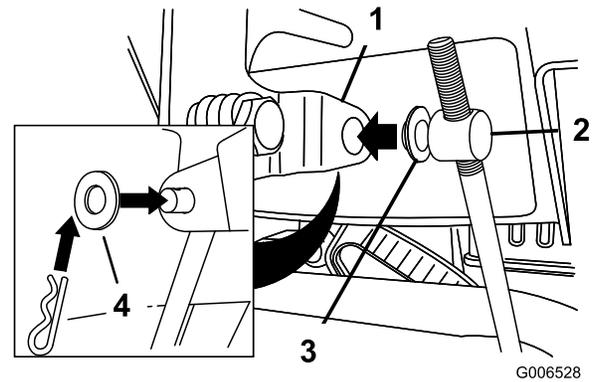

Figure 6
3. Remove the hairpin cotter and the outer washer from the trunnion on the upper end of the speed control rod (Figure 6).
**Note:** To make installation easier, leave the inner washer on the trunnion (Figure 6).
- Lift up on the speed control rod and insert the trunnion into the hole in the speed selector lever (Figure 6).
- B. Disconnect the trunnion from the speed selector lever (Figure 6).
- C. Turn the trunnion downward (clockwise) on the speed control rod (Figure 6).
- D. Connect the trunnion to the speed selector lever (Figure 6).
- C. Turn the trunnion upward (counterclockwise) on the speed control rod (Figure 6).